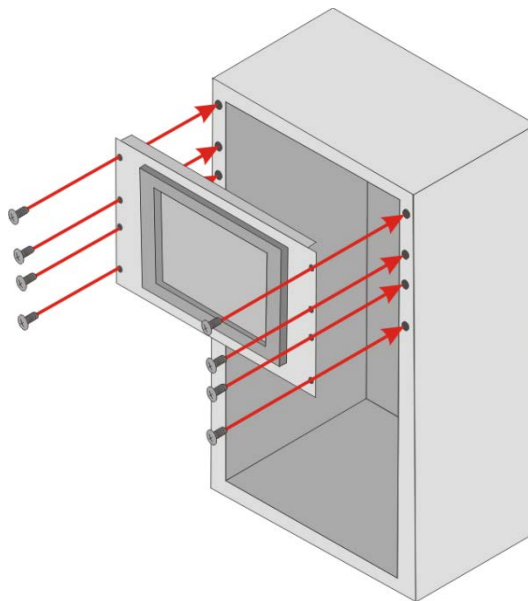

Figure 3-17: Install into a Rack/Cabinet
Step 6: Slide the panel PC with the attached rack/cabinet bracket into a rack or cabinet (Figure 3-17).
Step 7: Once the panel PC with the attached rack/cabinet bracket has been properly inserted into the rack or cabinet, secure the front of the rack/cabinet bracket to the front of the rack or cabinet (**Figure 3-17**).